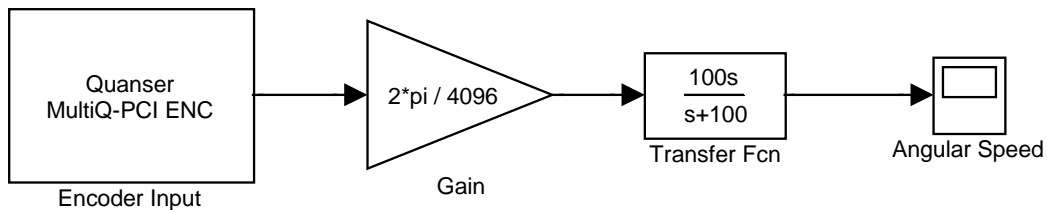

Figure 2: Block diagram for angular speed of the motor in rad/s.
1. Create a Simulink model as shown below in Figure 2.